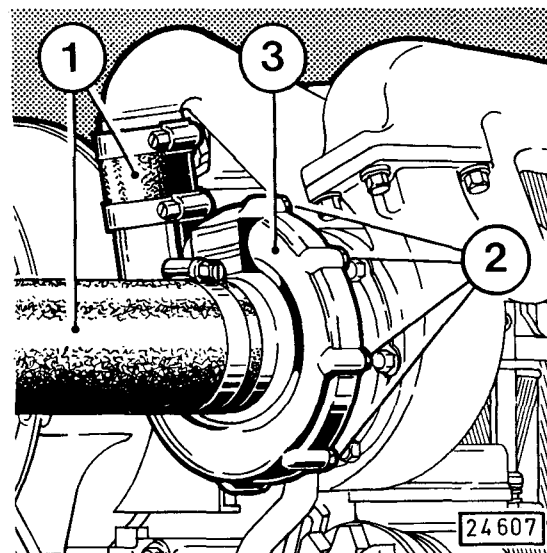

Fig. 64
- Loosen connecting sleeves 1 (Fig. 64).